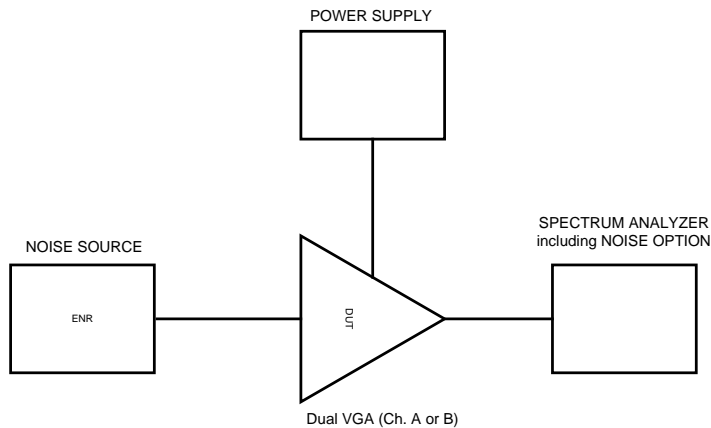

Fig. 9 Noise Figure Measurements
The Noise Figure (NF) has been measured with a noise source (Excess Noise Ratio ENR=15.3 dB), in combination with a spectrum analyzer with a noise measurement option. (See Fig.9)